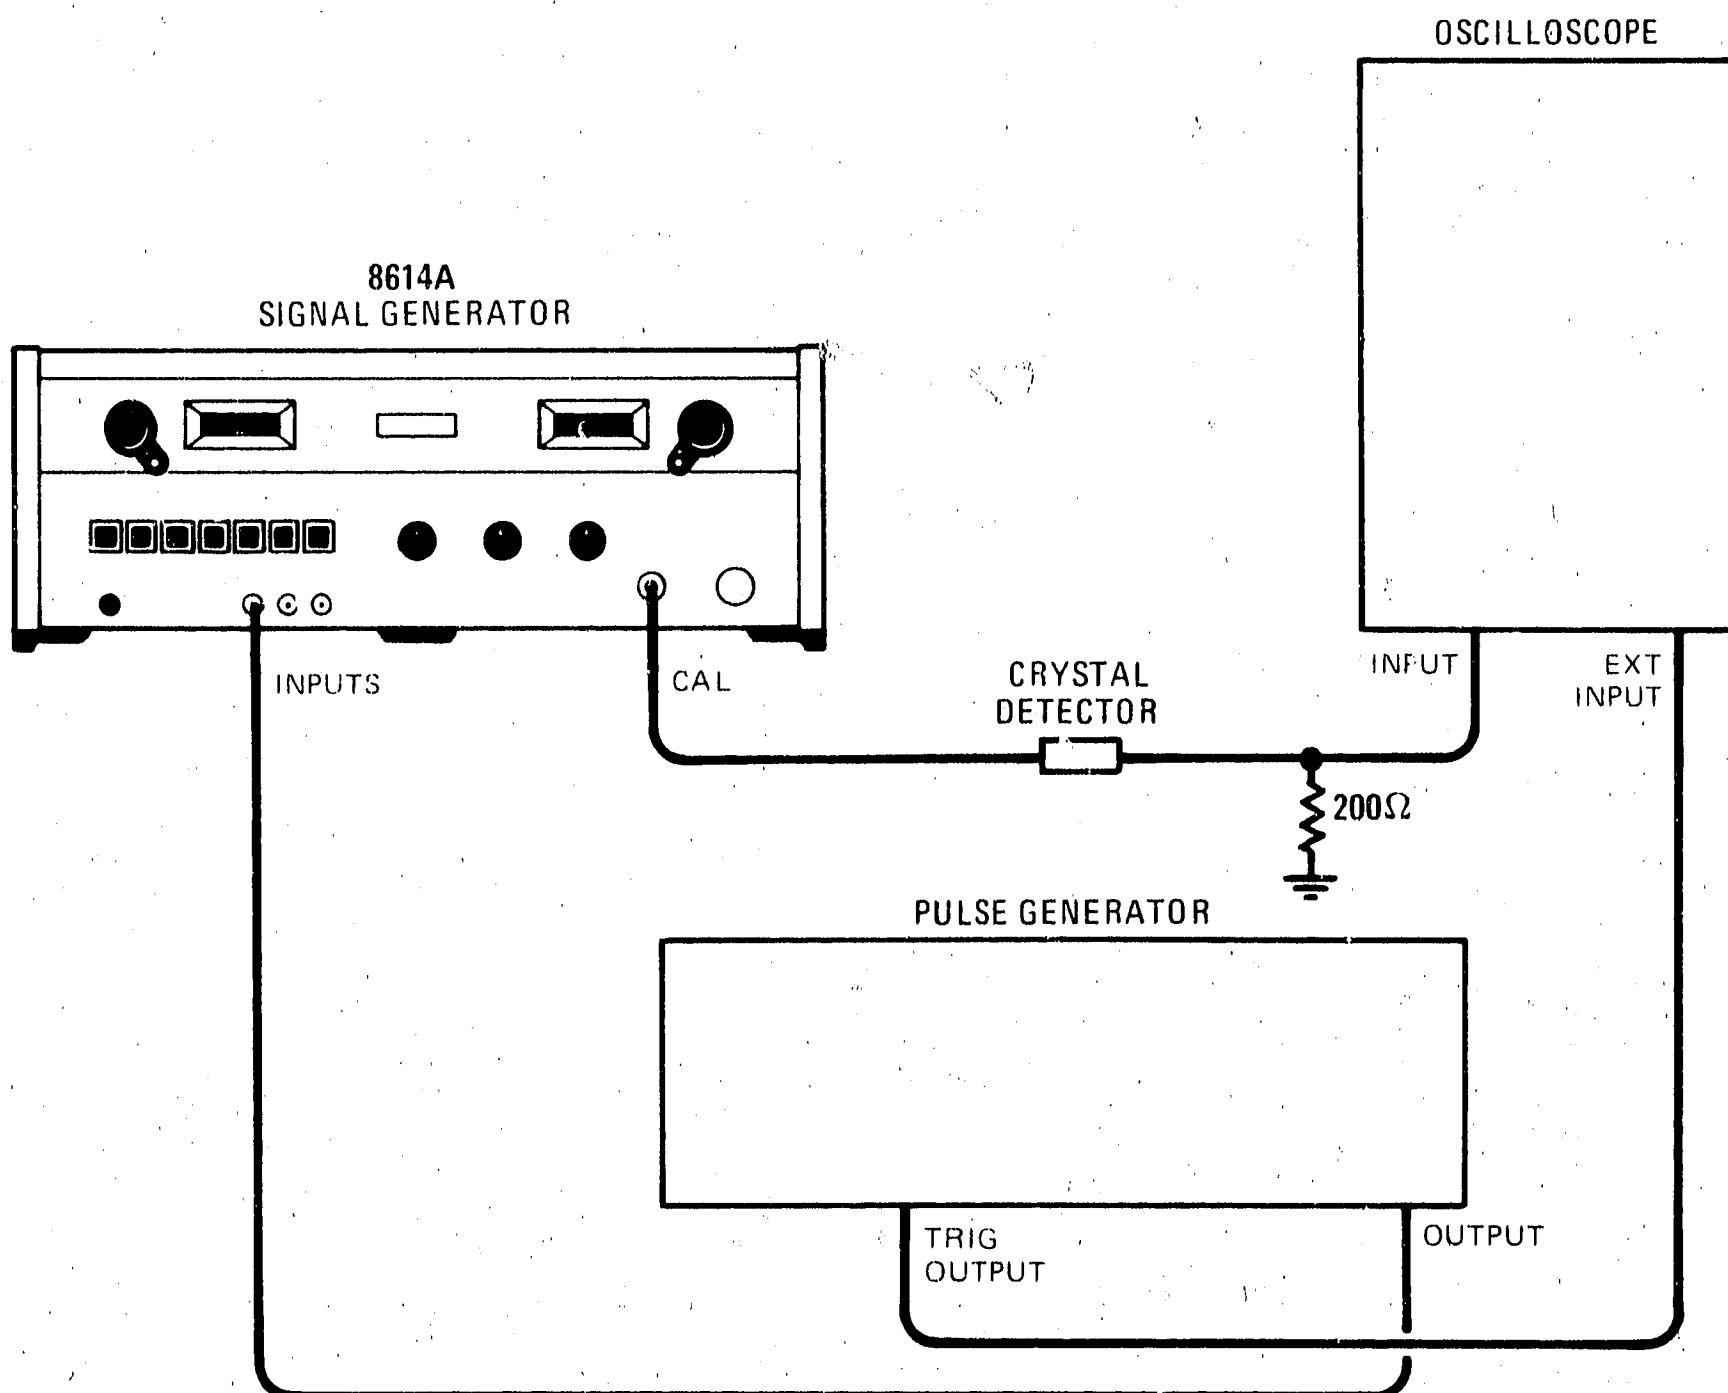
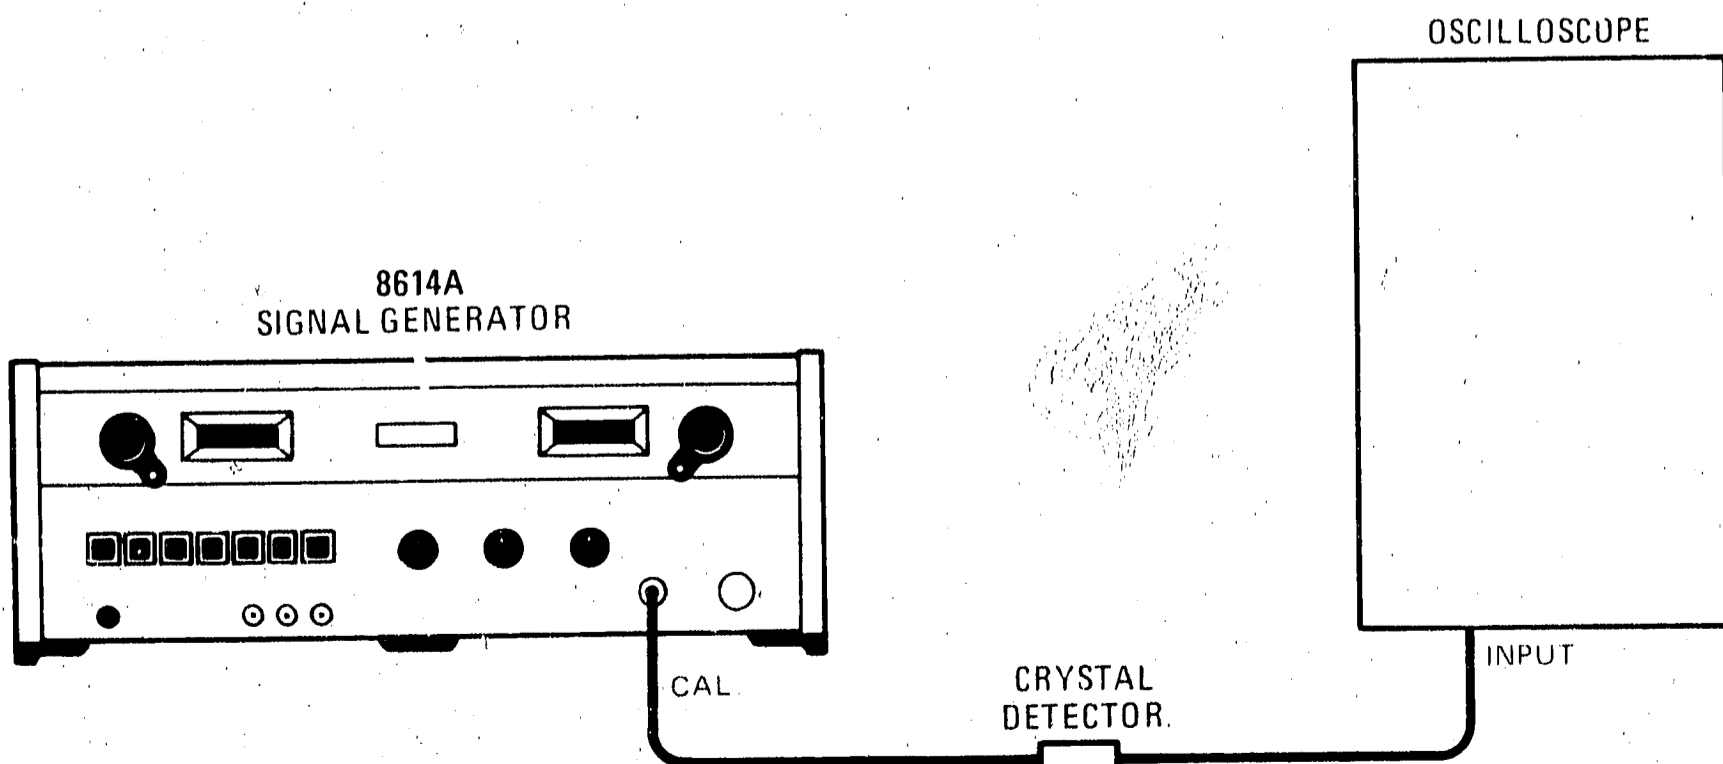

Figure 5-2. External Pulse Check
Figure 5-3. Internal Square-Wave Check
- a. Connect instruments as shown in Figure 5-2.
- a. Connect instruments as shown in Figure 5-3 (see Note, paragraph 5-14, step a).
- ATTENUATION (DB) 0 DB
- e. To check external synchronization, connect equipment as shown in Figure 5-2.